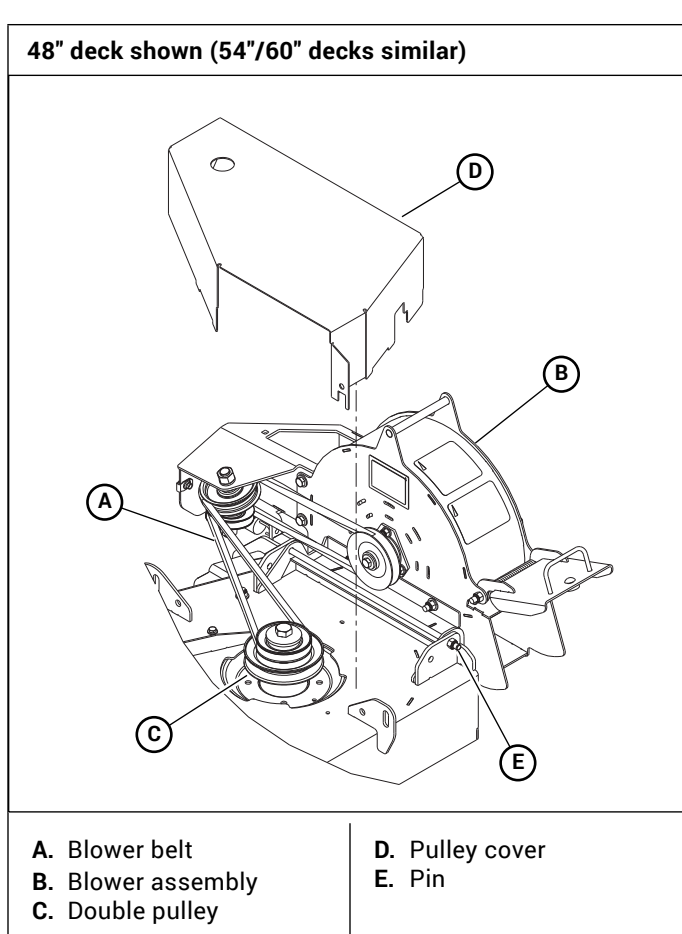

Figure 4-4
2. Remove the flex tube from the catcher lid elbow chute and blower chute outlet tube. Figure 4-4
4. Remove the pulley cover from the deck. Figure 4-4
5. Release the tension from the blower drive belt and remove it. Figure 4-4
6. Remove the pin that connects the blower adapter to the deck and remove the blower housing and adapter. Figure 4-4